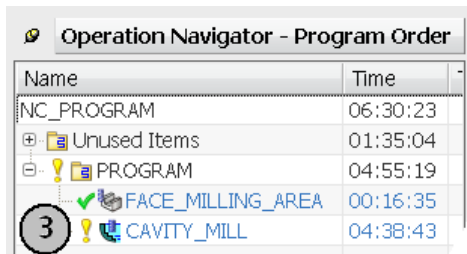

Figure 8.2 Marker's view after the recalculation of the tool path
7. A **yellow** marker (an exclamation mark) will appear next to the operation — figure 8.2 (3).